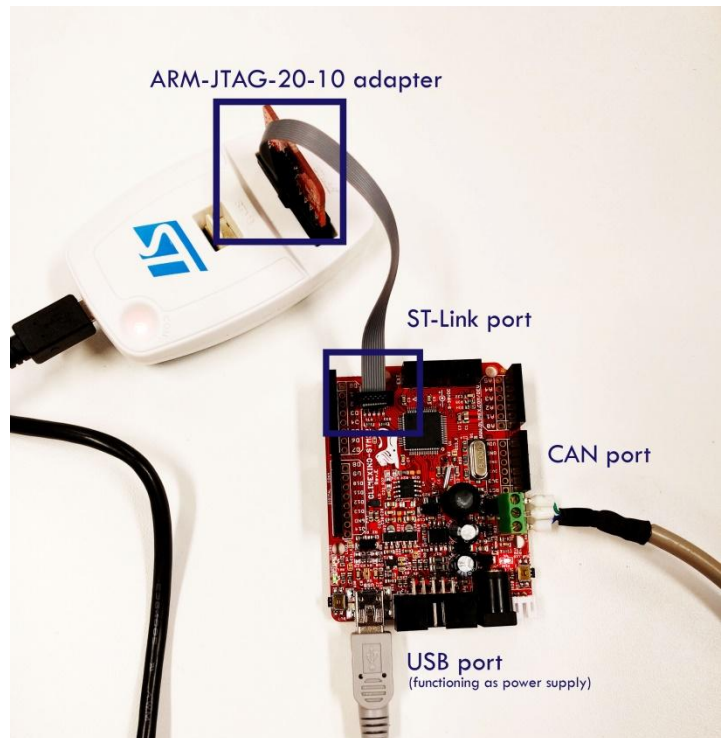

Figure 5-2 Olimexino ST-LINK setup
- Power is supplied to the Olimexino board (in figure 5-2 with usb).